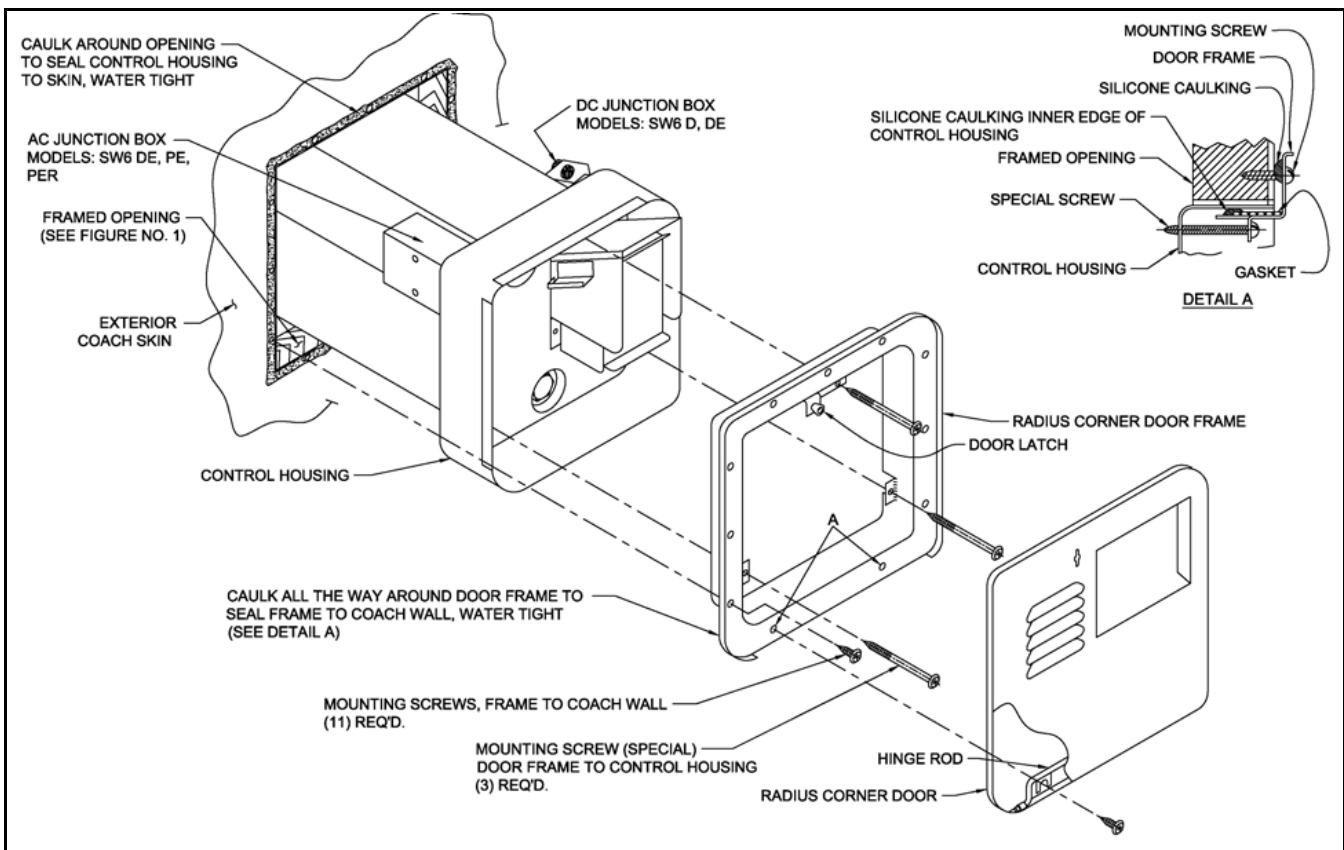

Figure 3
INSTALLATION USING HINGED DOOR (See Figure 3 for illustration)
- F. Fit the door frame into control housing (over the caulking already applied) and pull frame tight to control housing using the three (3) No. 8-15 x 3 1/2" screws provided.
- G. Push water heater into framed opening until back side of door frame (now attached to control housing) is against the side of the coach and firmly attach with screws around the perimeter of the frame. NOTE: The two (2) holes in bottom of frame identified as "A" in Figure 3 are also used to mount door hinge to the frame.